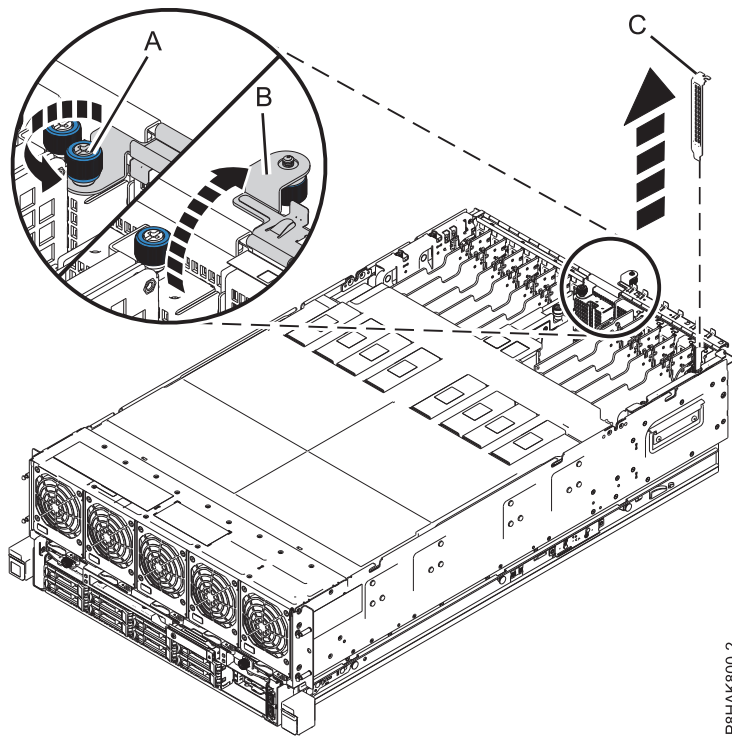

Figure 7. Removing a filler from a PCIe adapter slot in the 8408-44E or 8408-E8E system
- a. Unscrew the captive thumbscrew of the I/O retention bracket until fully loose. See **(A)** in Figure 7.
- b. Open the I/O retention bracket by rotating it up and away from the system. See **(B)** in Figure 7.
- c. To remove the filler, carefully grasp the filler **(C)** by its top edge or tailstock, and remove it from the system. See Figure 7.